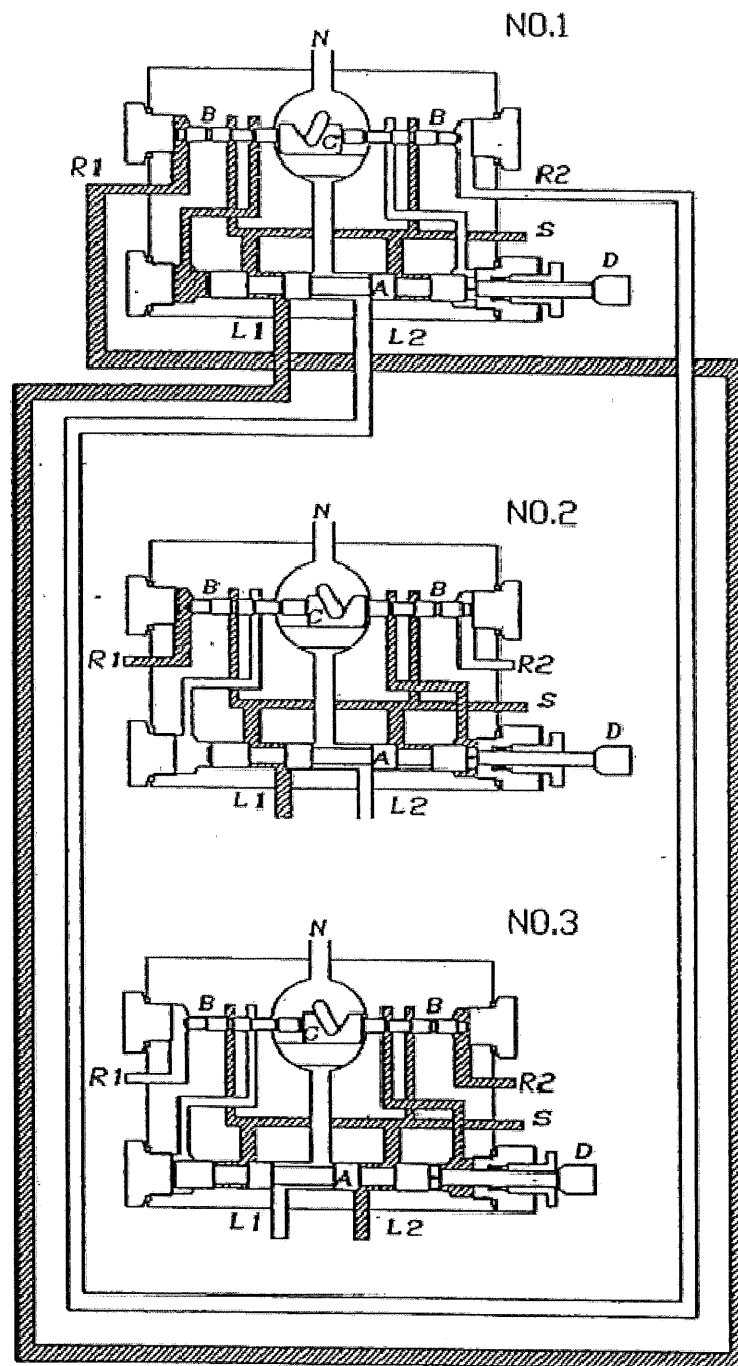

Fig.5
The composition is as shown in Fig.5.
- (a) In No.1 of Fig.5, grease pressurized by the pump passes through the inlet S and is forced into the main supply pipe L1 by means of the piston A. At this time, the other main supply pipe L2-R2 is connected to the reservoir through N.
The darkened part of Fig.5 shows the existence of pressurized grease.
- (b) When the pressure in R1 exceeds the set value, the rack piston B is moved to the right as shown in the No.2 of Fig.5. During this movement, grease entering into the cylinder through the inlet S is forced against the right end of piston A by the movement of piston B.
- (c) Grease entering the cylinder through the inlet S and pressurized by the pump moves the piston A to the left, as shown in the No.3 of Fig.5. Upon completion of the above movement, the main supply pipe L1 and its return pipe R1 are connected to the relief line N. During this movement, the grease from the inlet S is fed to the main supply pipe L2. The piston A is provided with a switch lever D, as shown in Fig.5, so that the line reversing operations can be observed from the outside.
When the lubricating pump is started again, grease is admitted into the main supply pipe L2 as shown in No.3 of Fig.5.
After all the measuring valves have been actuated by grease pressurized by the pump, the pressure exceeds the set value, the piston B is moved to the left. With the movement of the piston B, the pressurized grease from the inlet S is forced against the left end of the piston A. This allows the piston A to move to the right as shown in No.1 of Fig.5. At this time, the limit switch is actuated by means of the switch lever D, and the lubricating pump stops.